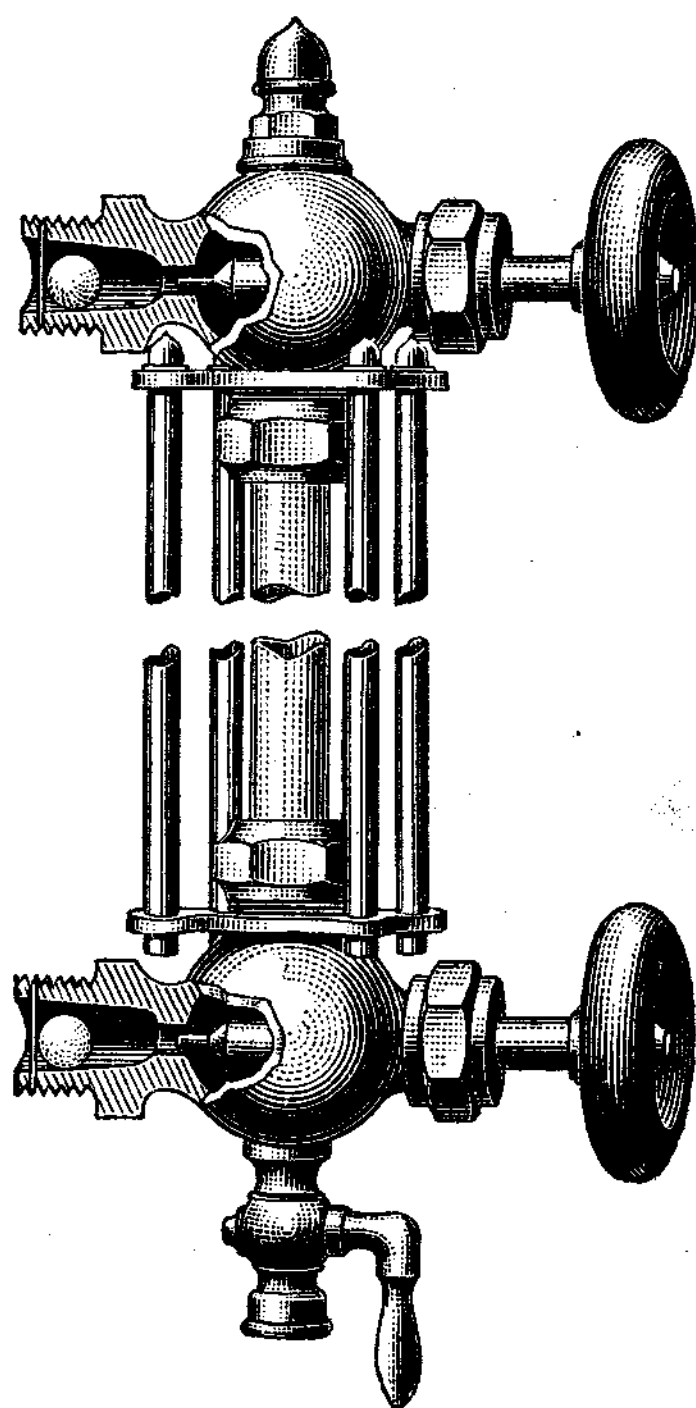

FIG. 8
16. Owing to the danger of scalding the hands and face that is incurred by shutting off the valves by hand in case the gauge glass breaks, and also to prevent the loss of steam and water, it is desirable, for high-pressure work, to have water gauges that will automatically shut off communication with the boiler whenever the glass breaks. There are many designs of such water gauges on the market, one of which, typical of the others, is shown in Fig. 8. A ball is placed within the shank of each fitting, as shown, and is prevented from falling out by a brass pin. Should the gauge glass break, the out-rushing steam and water carry the balls forwards and thus close the openings leading to the gauge glass. While the balls may not shut off the steam and water entirely, they will check the outflow sufficiently to permit the valves to be closed without danger.